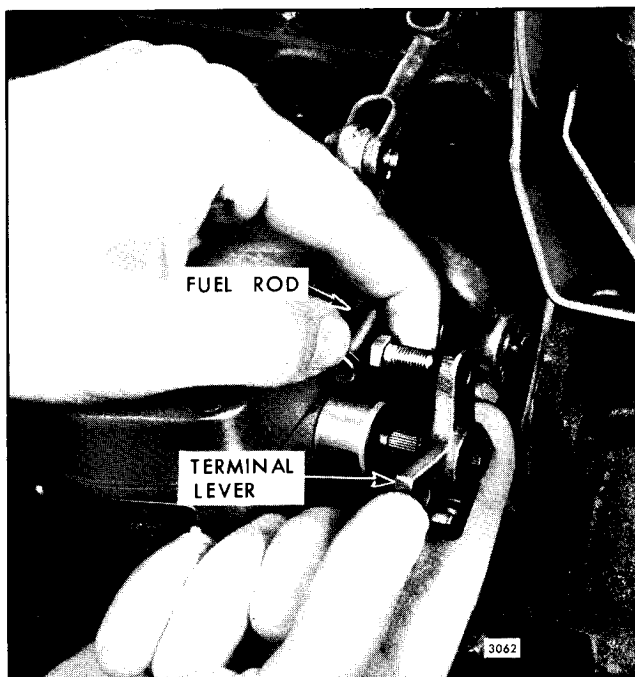

Fig. 3 - Adjusting Length of Fuel Rod
5. Hold both the injector rack control tube and the terminal lever in the *full-fuel* position and adjust the length of the fuel rod until the end bearing or ball joint will slide freely into the hole of the terminal lever (Fig. 3). Tighten the locknut, to retain the ball joint or end bearing, and the terminal lever clamping bolt securely.